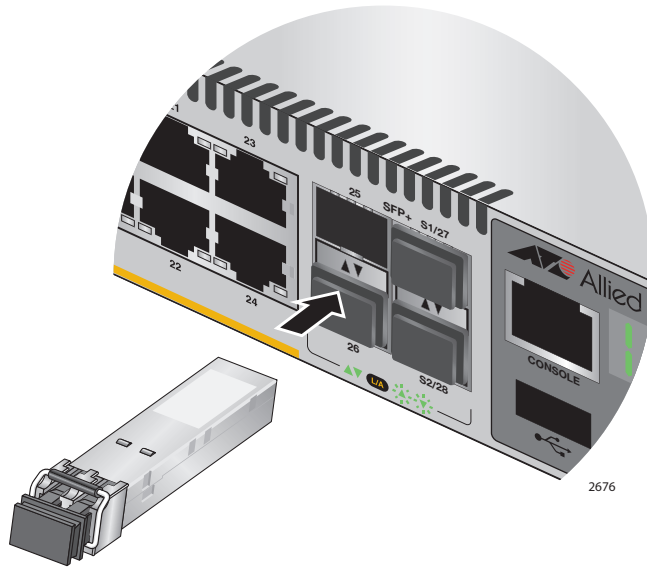

Figure 65. Installing an SFP or SFP+ Transceiver
- Slide the transceiver into the slot until it clicks into place, as shown in Figure 65 on page 114.